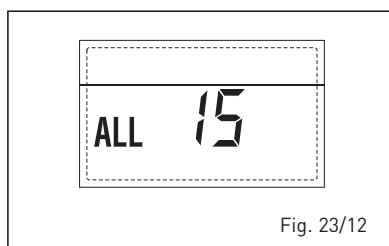

Fig. 23/12
- ANOMALÍA Sonda EXTERNA "PARPADEANT" (fig. 23/13)